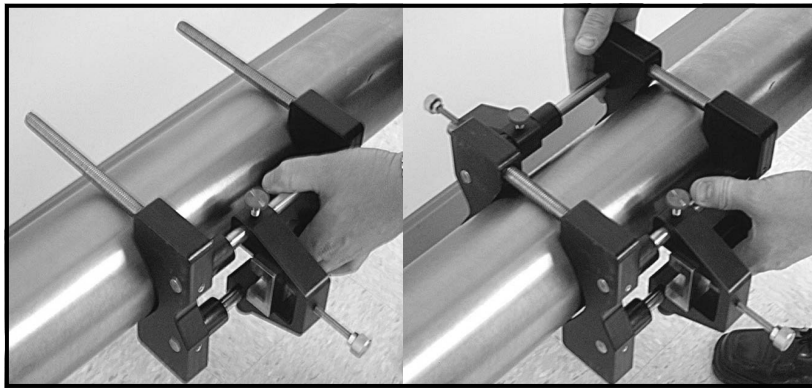

Figure 6: Mounting the Two Halves of the Fixture
1. Position the half of the clamping fixture with the threaded rods around the pipe, as shown in *Figure 6* below. Orient the fixture in the 3 o'clock position on a horizontal pipe.
2. Position the mating half of the fixture over the threaded rods in the 9 o'clock position. *Figure 6* below shows the two mounted halves.